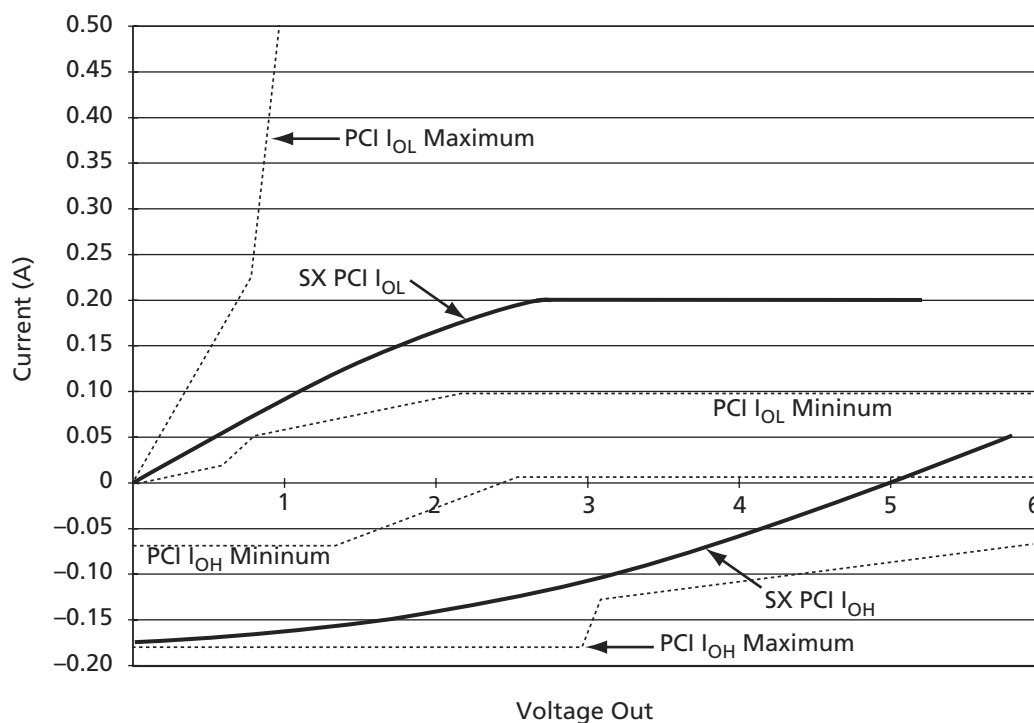

Figure 1-9 • **5.0 V PCI Curve for A54SX16P Device**
1. Refer to the *V_I* curves in Figure 1-9 on page 1-11. Switching current characteristics for REQ# and GNT# are permitted to be one half of that specified here; i.e., half-size output drivers may be used on these signals. This specification does not apply to CLK and RST#, which are system outputs. "Switching Current High" specifications are not relevant to SERR#, INTA#, INTB#, INTC#, and INTD#, which are open drain outputs.
3. Maximum current requirements must be met as drivers pull beyond the last step voltage. Equations defining these maximums (A and B) are provided with the respective diagrams in Figure 1-9 on page 1-11. The equation defined maxima should be met by design. In order to facilitate component testing, a maximum current test point is defined for each side of the output driver.
Figure 1-9 shows the 5.0 V PCI V/I curve and the minimum and maximum PCI drive characteristics of the A54SX16P device.